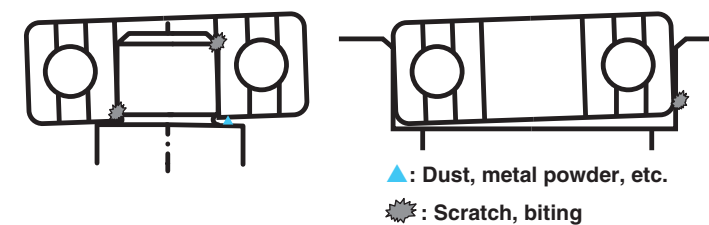

Figure 19-1 Misalignment due to foreign matter and scratch
- Cleaning parts (Figure 19-1)